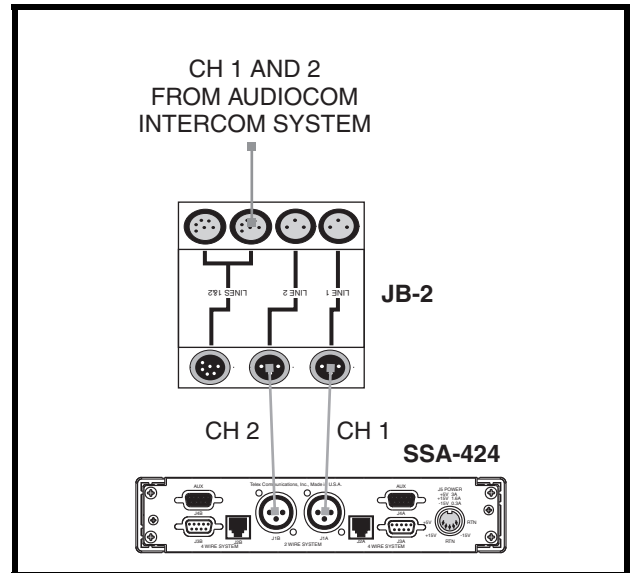

FIGURE 4. Using a JB-2 Junction Box to split a 2-channel Audiocom cable into two 1-channel cables.
- You can directly connect standard Audio 1-channel cables. Connect one Audiocom channel to the J1A connector on the back of the SSA-424A (System A). Connect a second Audiocom channel to the J1B connector (System B). If your Audiocom system uses 2-channel cables, use a JB-2 Junction Box to split the channels (Figure 4)